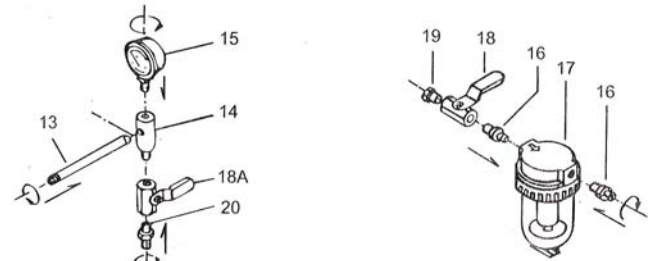
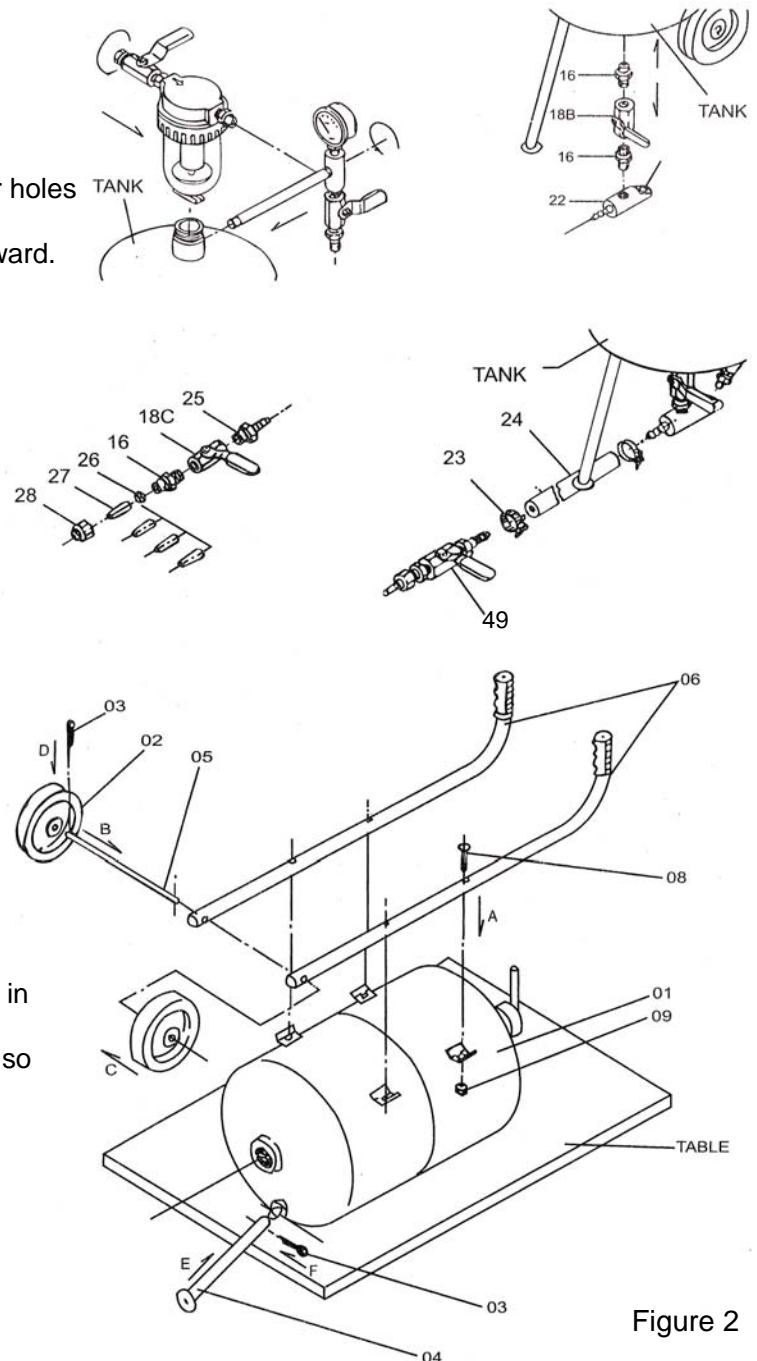

Figure 1
Figure 2
1. Follow the diagram at right to install the various components (Figure 1).
2. Slide the two hose clamps (23) over each end of the Abrasive Hose (24) surface.
3. Press one end of the hose, over the nipple on the Abrasive outlet pipe (22). Press the other end over the Abrasive Safety Trigger Hose Adapter (49).
5. Lay the Abrasive Blast Tank on a flat level surface (such as a workbench or table top), with the handlebar mounting brackets facing up. (Figure 2)
6. Align the 4 holes in the Handlebar (06) with the four holes in the handlebar mounting brackets.
7. Place a Washer onto each of the four handlebar mounting Screws (08) and insert them through each of the four holes.
8. Place a nut (09) onto the end of each screw and firmly tighten with a wrench.
9. Locate the Wheel Axle (05) and slide it through the axle holes located at the bottom of the handlebar.
11. Slide a wheel (02) onto each end of the wheel axle.